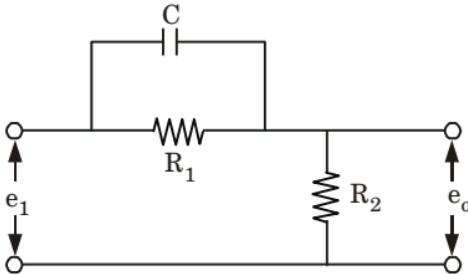

Fig. 5.1.1. Phase lead network.
- Fig. 5.1.1 shows a phase-lead network where in the phase of output voltage leads the phase of input voltage for sinusoidal input.